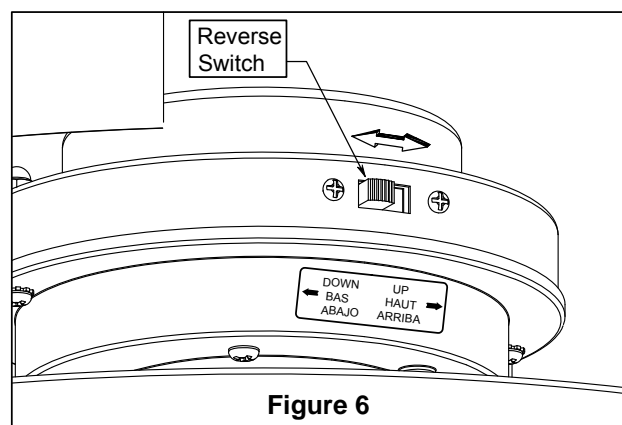

Figure 6
- ### 6. If airflow is desired in the opposite direction, turn the fan off and wait for the blades to stop turning. Slide the reverse switch on top of motor assembly to the opposite position and turn fan on again. (Figure 6)